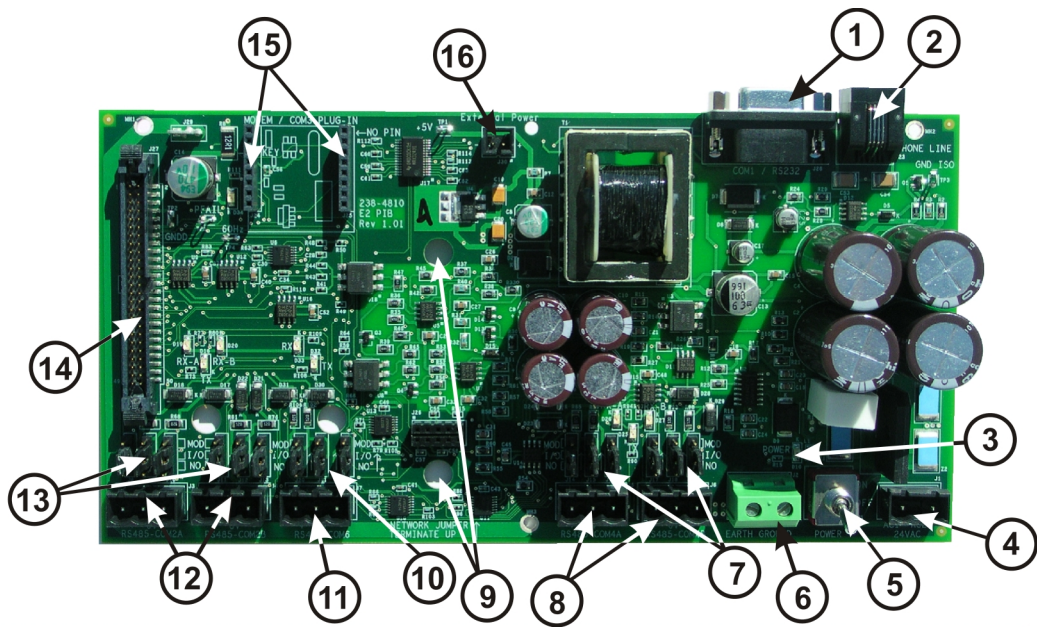
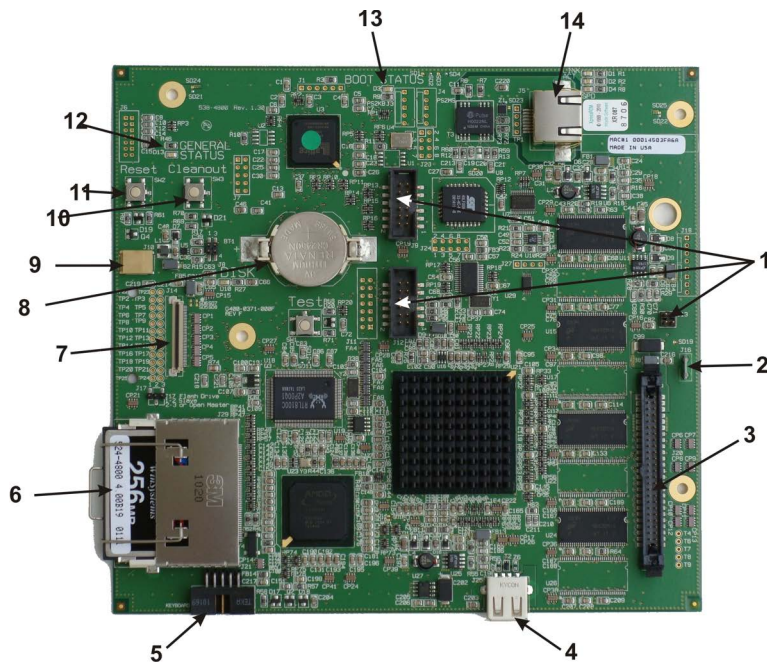

Figure 2 - E2 PIB Version 4.0
Figure 3 - E2 Circuit Board Version 4.0
11. Connect the cables to the new PIB board (see Figure 2 - E2 PIB Version 4.0 and Figure 3 - E2 Circuit Board Version 4.0 for PIB and circuit board connections)